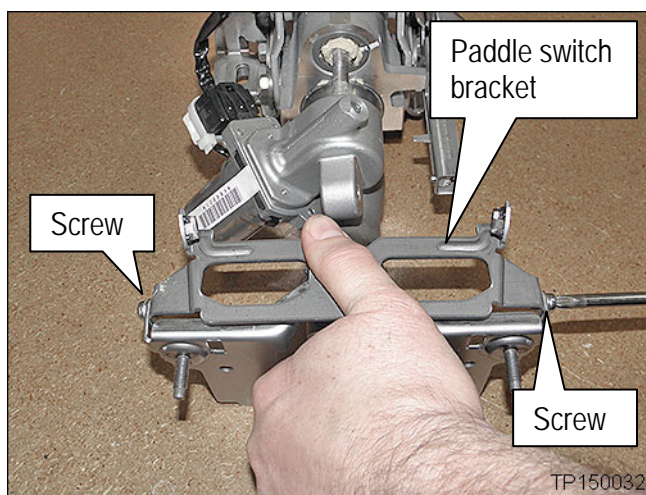

Figure 7
- a. Remove 2 screws shown in Figure 7.